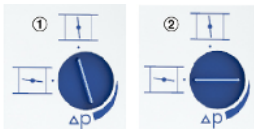

Fig. 2: Display of the damper blade position
- 6 Display damper blade position ⇒ Fig. 2